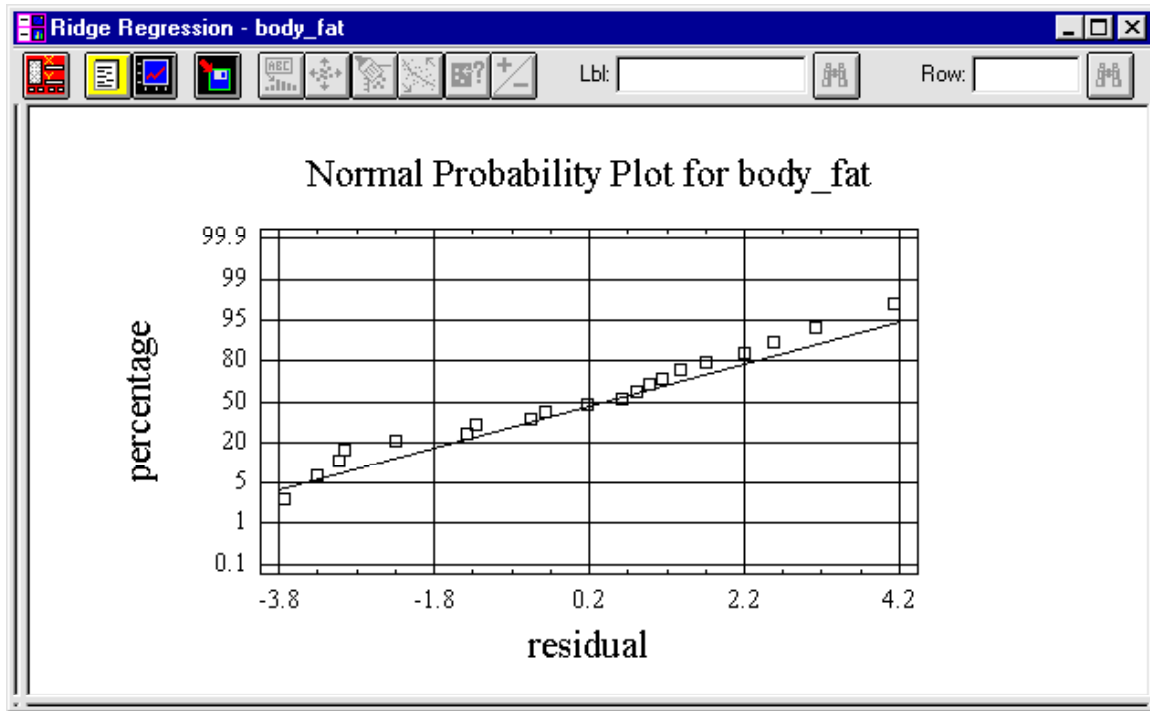

*Figure 6-12. Residual versus X Scatterplot*
The Residual versus X scatterplot displays the residual versus the independent variable (X) (see Figure 6-12). Use this plot to detect the nonlinear relationship between the dependent and independent variables.